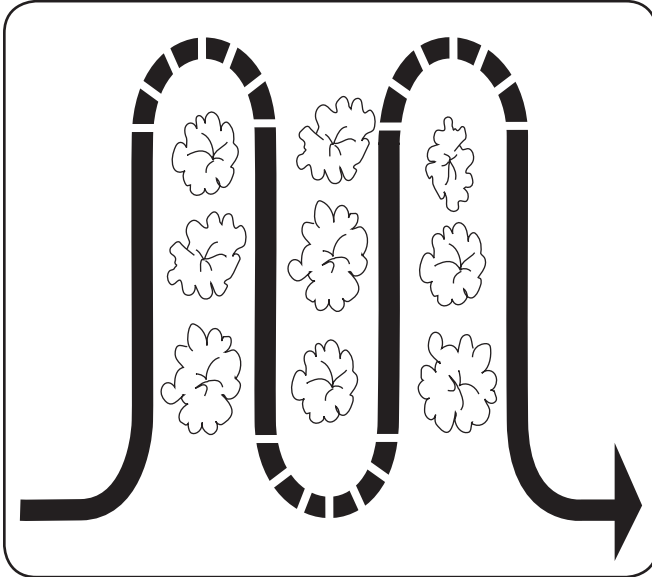

Figure 5-3
- When cultivating (breaking up the surface soil around the plants to destroy weeds, see Figure 5-3), adjust the tines to dig only 1" to 2" deep. Using the shallow tilling depth helps prevent injury to the plants whose roots often grow close to the surface. If needed, lift up on the handlebars slightly to prevent the tines from digging too deeply. (Cultivating on a regular basis not only eliminates weeds, it also loosens and aerates the soil for better moisture absorption and faster plant growth.) Watering the garden area a few days prior to tilling will make tilling easier, as will letting the newly worked soil set for a day or two before making a final, deep tilling pass.